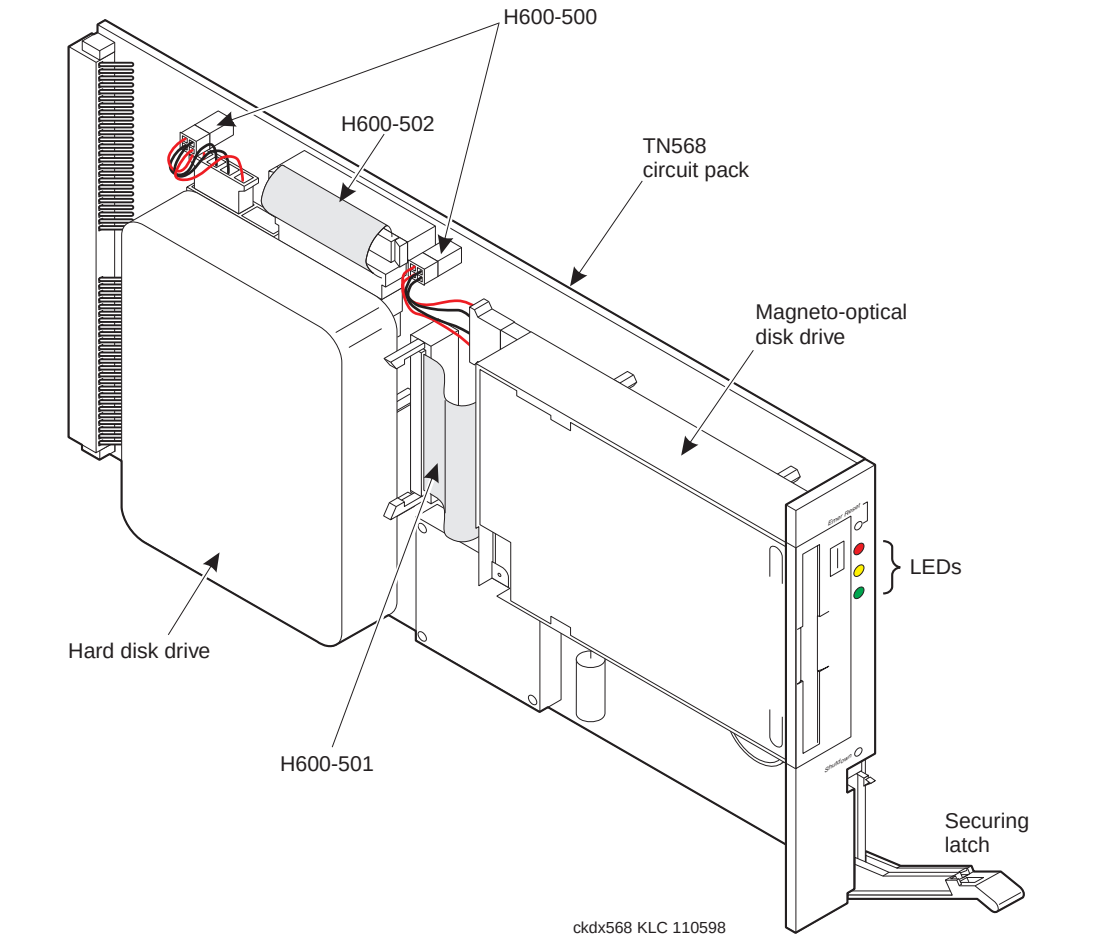

Figure 2-1. DEFINITY AUDIX System Assembly
6. Insert the DEFINITY AUDIX system assembly (see Figure 2-1) into the switch cabinet. To do so, hold the DEFINITY AUDIX system assembly by the outside edge of the faceplate and line up the TN568 circuit pack with the bottom guide of the second slot of the two reserved port slots in the switch carrier. Make sure that the assembly is properly aligned in the slot, then insert it with a single firm push, and lock it in place by pushing up the securing latch on the circuit pack.